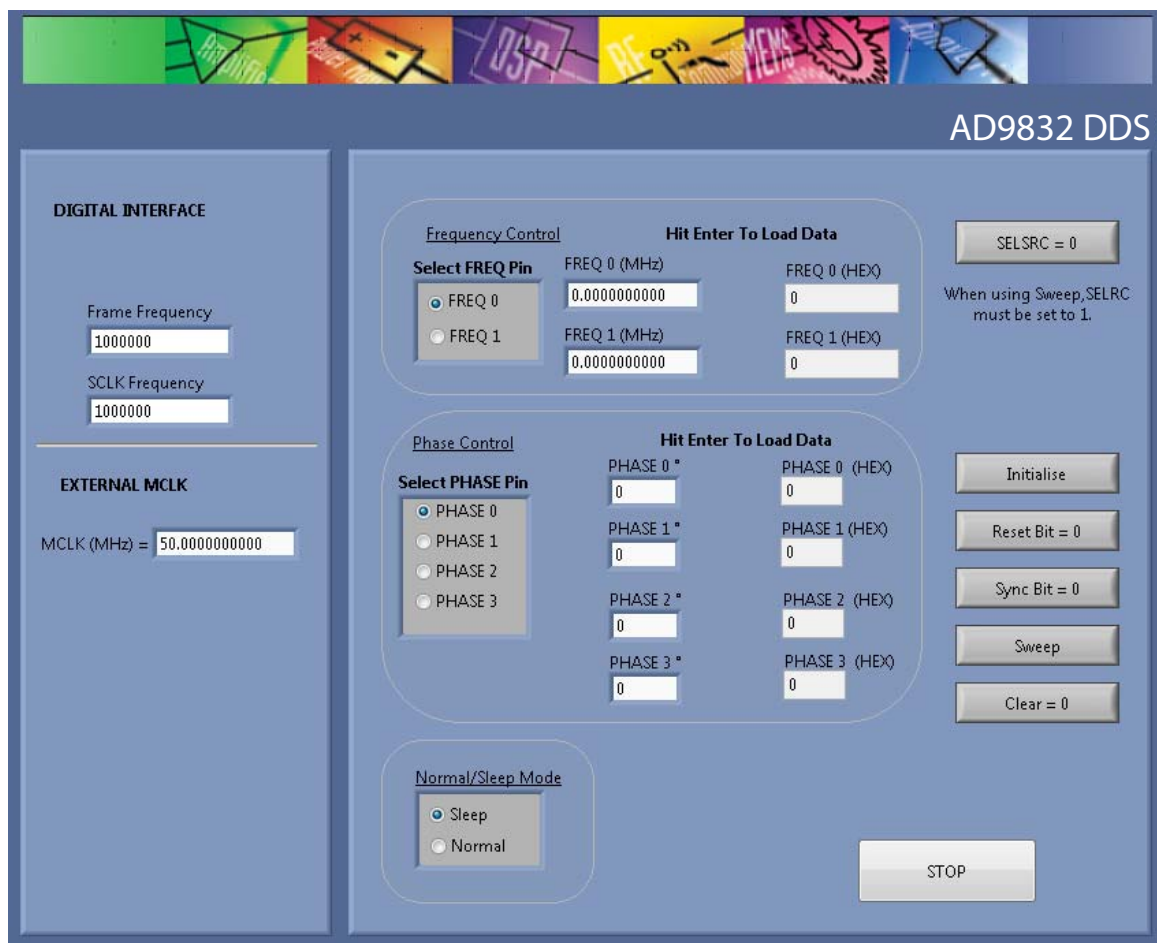

Figure 4. AD9832 Evaluation Board Software
3. Ensure that all links are in their correct locations (see Table 1). The main window of the AD9832 evaluation software then opens, as shown in Figure 4.
The first step in setting up the AD9832 to take measurements is to set the **DIGITAL INTERFACE** in the software window (see Figure 4).